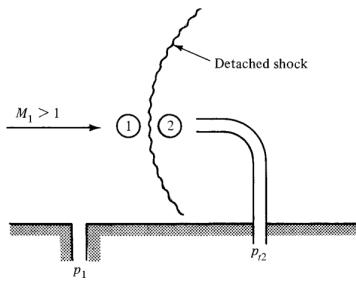

Figure 7.13
- 7.11** A pitot tube is installed in a wind tunnel in the manner shown in Figure 7.13. The tunnel air temperature is 500°R and the static tap (p_1) indicates a pressure of 14.5 psia.